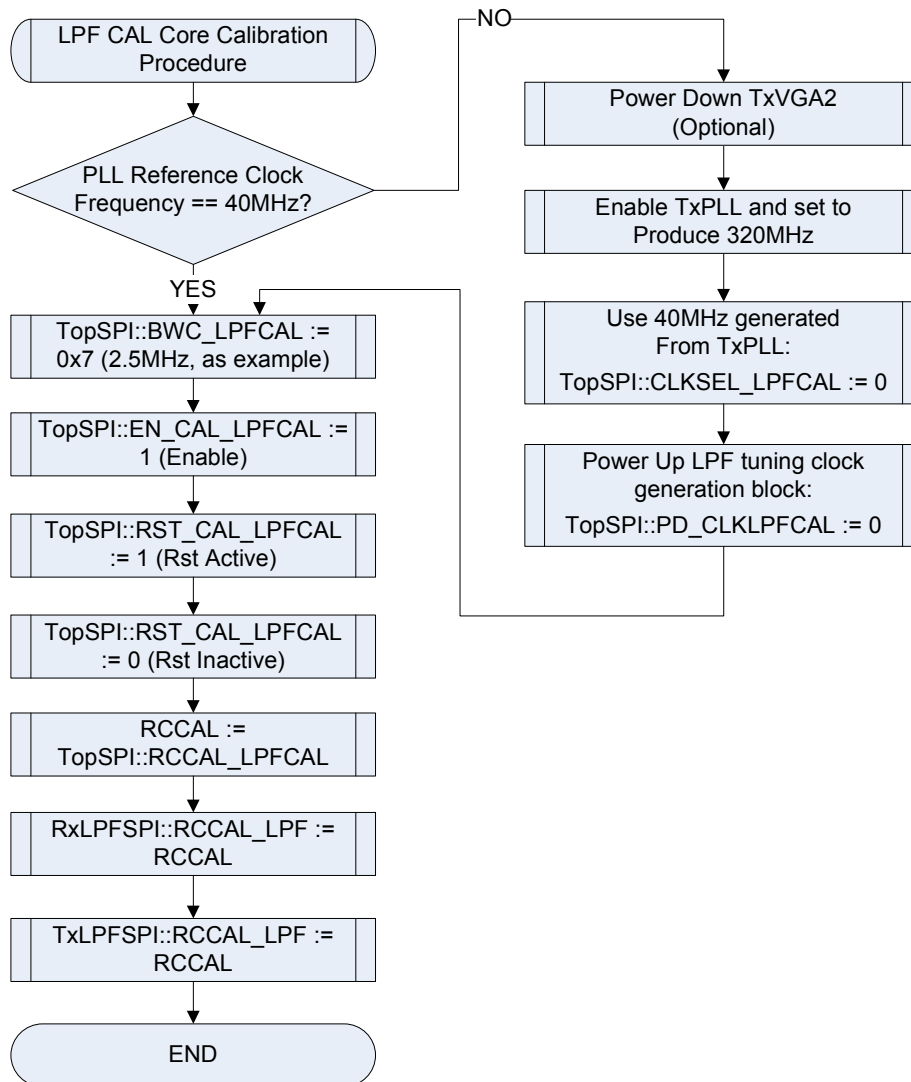

Figure 4.5
2. LPF bandwidth tuning, Figure 4.5.